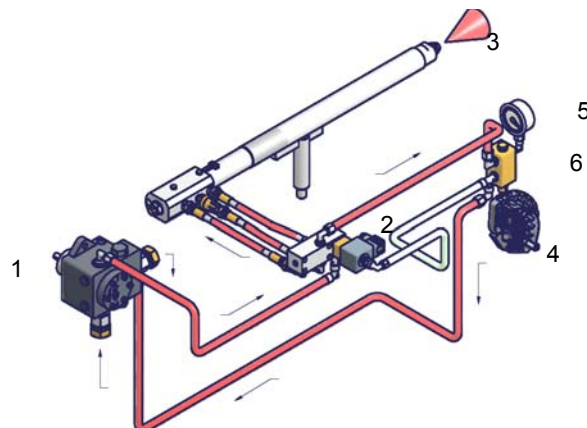
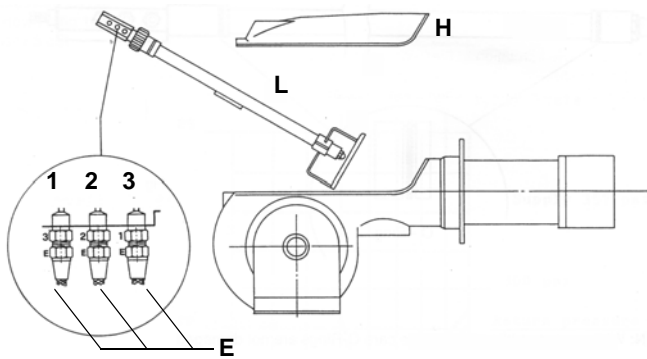

Fig. 22 - High flame
Fig. 23
- Unscrew the oil connections E (Fig. 22) connecting the flexible pipes to the gun L and remove the whole assembly as shown in Fig. 22-Fig. 23.